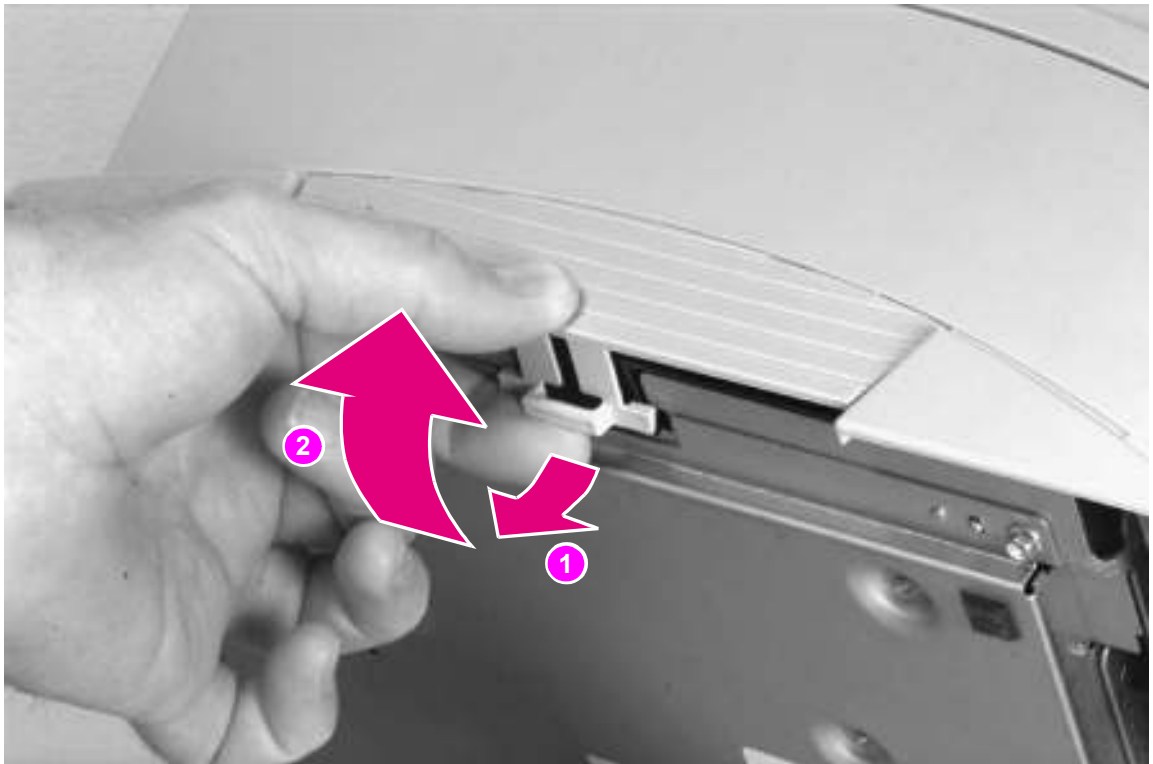

Figure 6-5 Memory Door removal
- 4 Carefully pull the door tab out (Figure 6-5, callout 1) and away from the printer in a gentle rocking motion (Figure 6-5, callout 2).